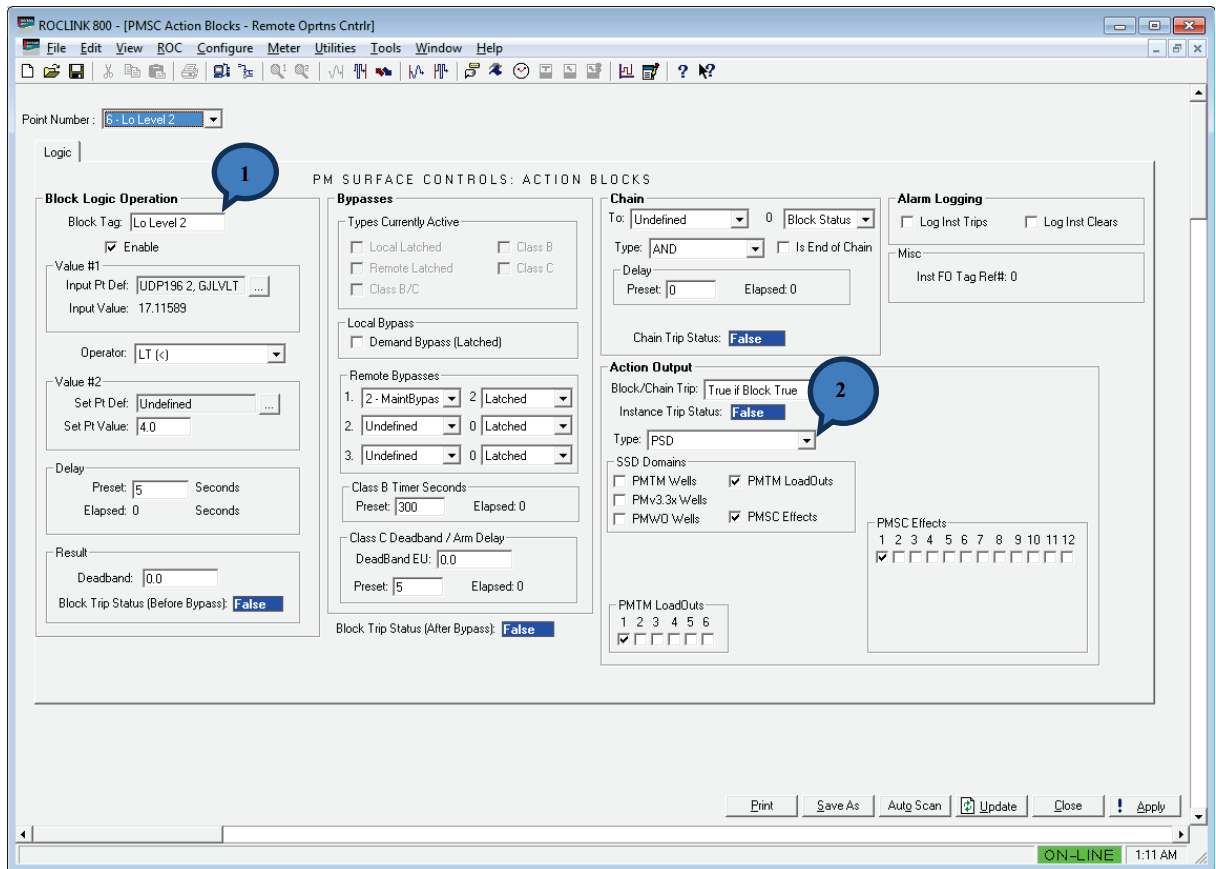

Figure 25. PMSC Action Blocks – Configuring Lo Level 2
3. Configure Lo Level 2 as shown in Figure 25.